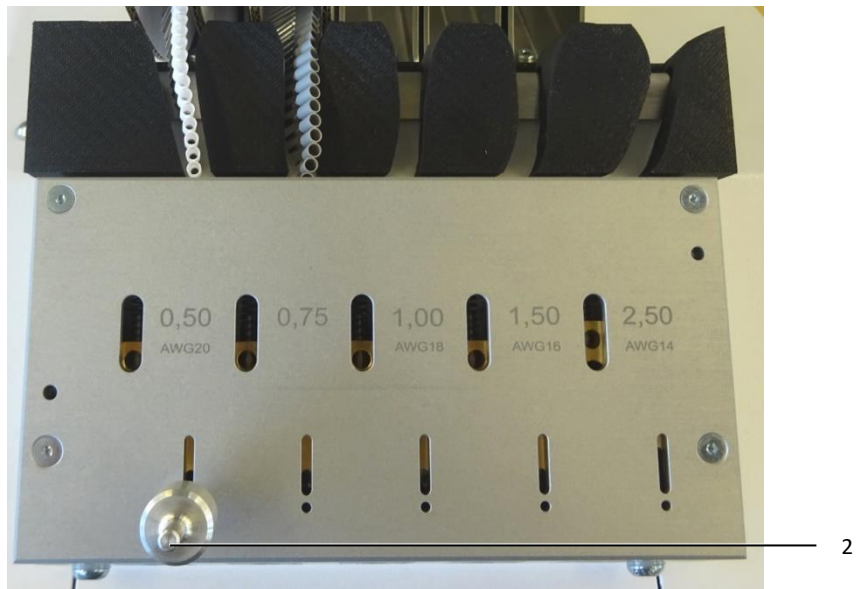

Fig. 9: Fixing pin at the bottom
- Place the fixing pin with the small diameter at the front in the lower opening (fig. 9, item 2) of the transport unit.